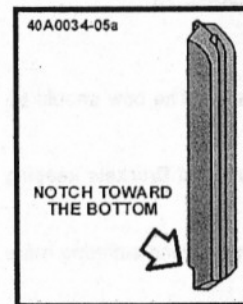
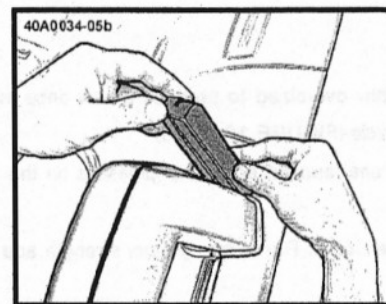

FIGURE 5a
FIGURE 5b
1. Clean the mounting surfaces on both roll hoops with one of the enclosed alcohol wipes. Peel the backing from the tape of one of the Center Panel Outboard Brackets ④. Either bracket will fit either side.
2. Orient the Center Panel Outboard Brackets as shown in (FIGURE 5a). The "notch" allows clearance for the gasket around the bottom of the roll hoop. Starting at the bottom, align the tongue on the Center Panel Outboard Brackets with the groove in the roll hoop and work the bracket upwards while maintaining alignment with the tongue and groove. (FIGURE 5b)